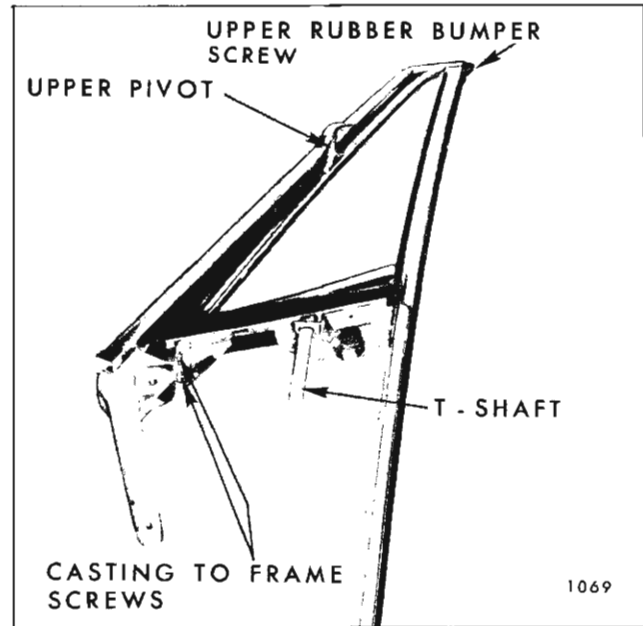

Fig. 1D36—Front Door Ventilator
2. Remove ventilator glass and sash channel from ventilator frame by opening glass approximately 60° and pushing glass downward slightly to disengage glass unit from ventilator frame at upper pivot point; then, upward to disengage lower T-shaft from frame. (See Fig. 1D36).
4. Remove two attaching screws securing ventilator casting to frame and separate ventilator casting from frame so that the ventilator weatherstrip can be removed. (See Fig. 1D36).